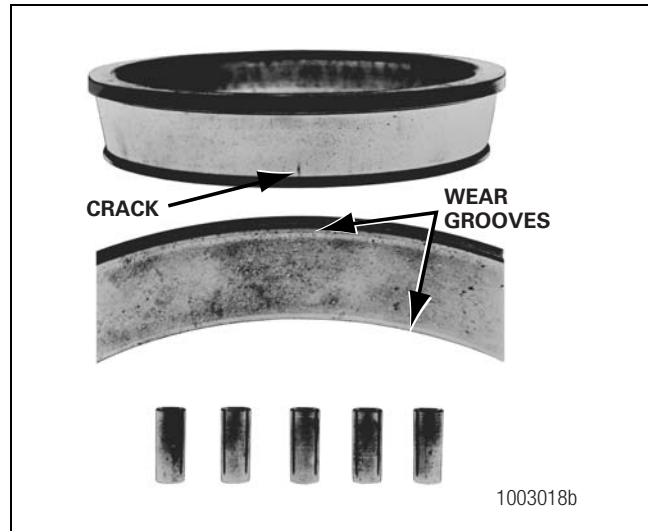

Figure 10.2
- There is a visible roller groove in the cup or cone inner race surfaces. The groove can be seen at the small- or large-diameter end of both parts. Figure 10.2.
- There are deep cracks or breaks in the cup, cone inner race or roller surfaces. Figure 10.2.